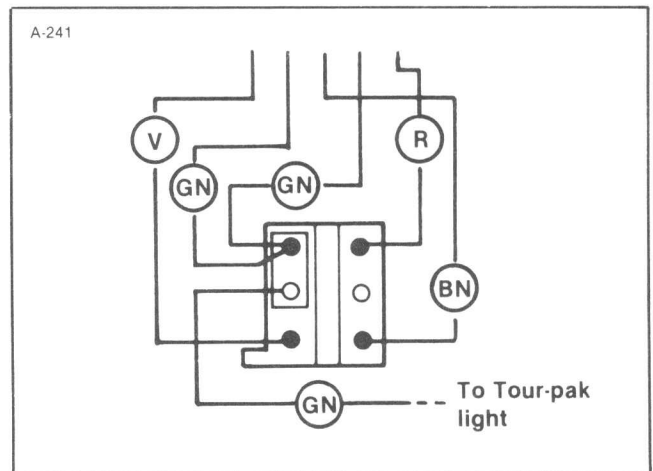
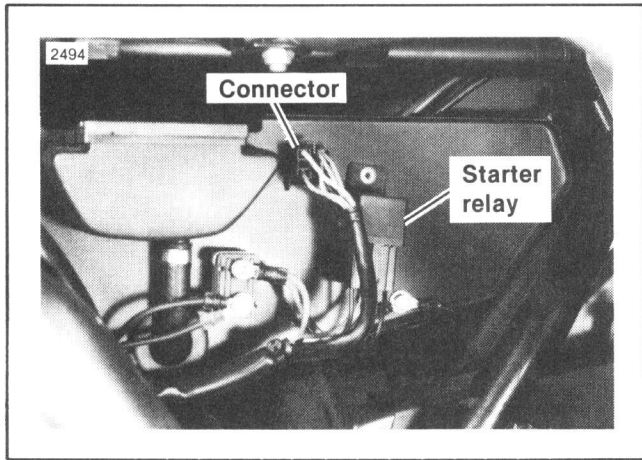
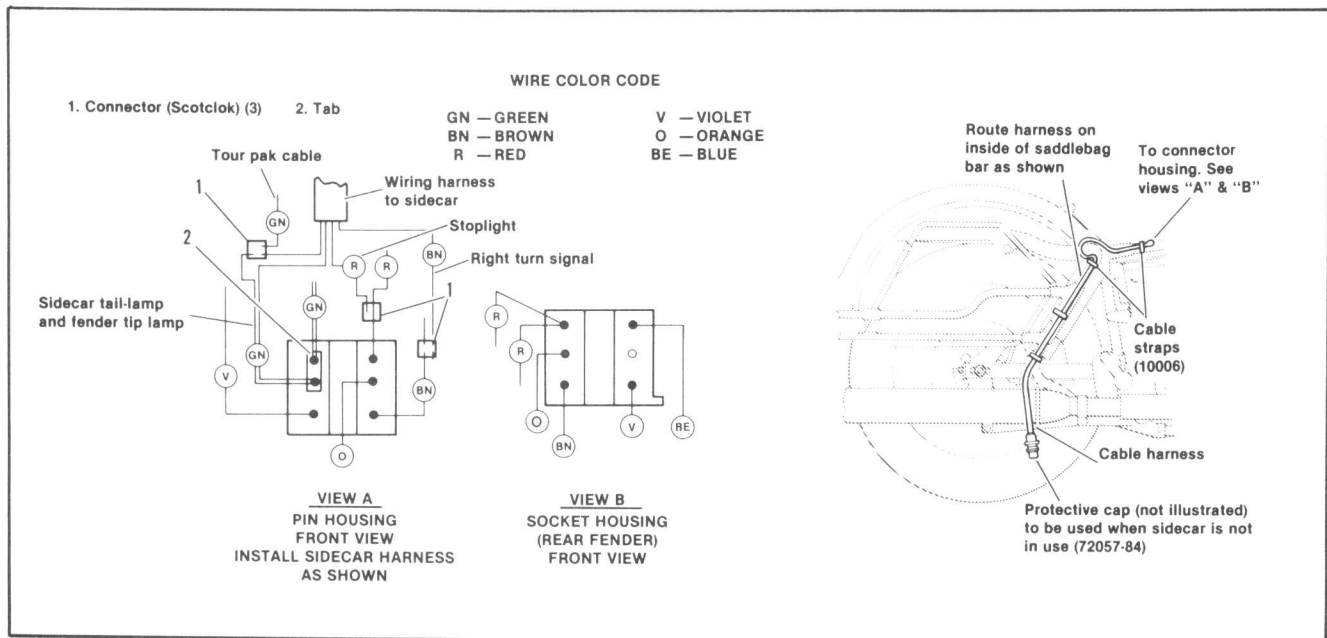

Figure 2-6. Pin Housing — Front View
Figure 2-7. Connector Location
Figure 2-8. Connecting Sidecar Harness
Figure 2-6 shows the pin housing wiring on 1983 and 1984 FLT and FLHT. Classics in 1983 and all 1984 models have Tour-Pak light lead. The connector is located behind the left sidecover as shown in Figure 2-7. See Figure 2-8 for a properly connected pin and socket housing.
2. Unplug connector shown in Figure 2-7.
4. Unfasten the three connectors (Scotchlok) shown in Figure 2-8.
7. Connect harness as shown in Figure 2-8.